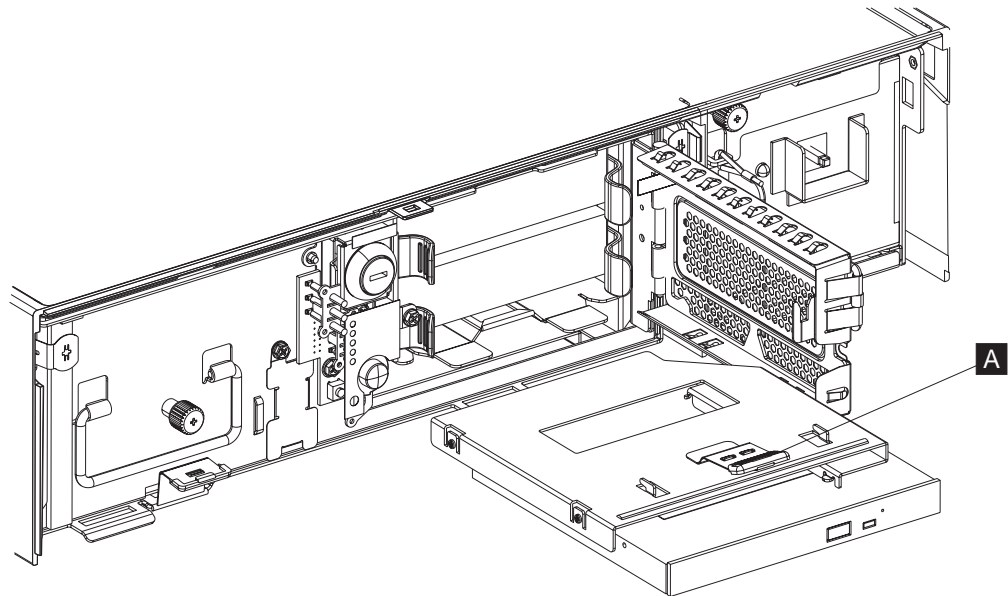

Figure 23. Removing an optical drive
3. With your hand facing upward, grip the bottom of the optical drive and its bracket with your fingers while pushing down on the bracket lock tab ( **A** in Figure 23) to disengage it from its window.